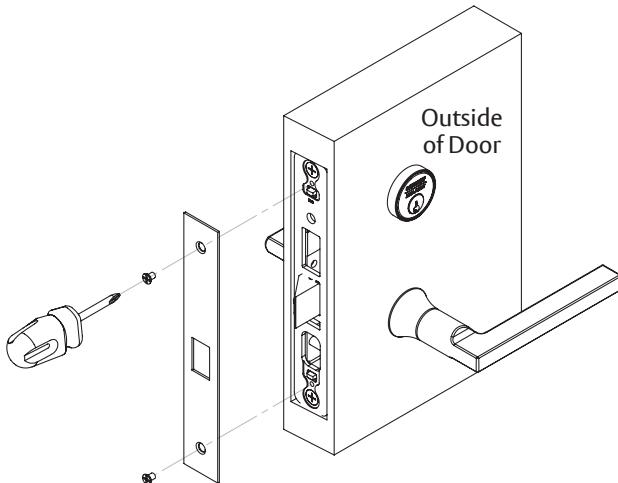

Figure 10
1. Attach outside front with two (2) #8-32 x 1/4" flat head screws. (Figure 10)